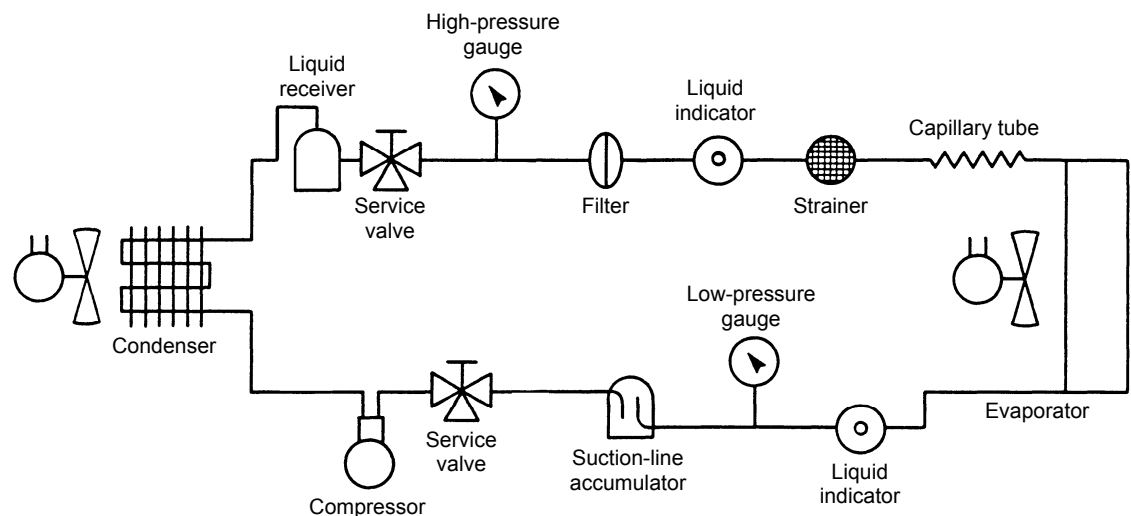

Figure 2-2. Typical refrigeration system using a capillary tube as a metering device.
Figure 2-2 shows a typical refrigeration system with a capillary tube. In the evaporator, liquid refrigerant absorbs heat from the air passing over the surface of the coil. When heat is absorbed, the liquid changes to a vapor. The heated vapor is drawn into the compressor where it is subjected to an increase in pressure. The temperature of the vapor therefore increases.
1. Identify the different components in the refrigeration schematic of Figure 2-2, and position them so that the circuit can be completed.